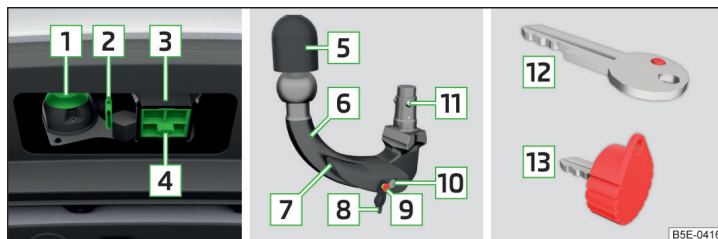

Fig. 296 Carrier for the towing device/tow bar/key versions
» Fig. 296
- Remove the cover for the mounting recess **4** in a downwards direction » Fig. 296 on page 250.